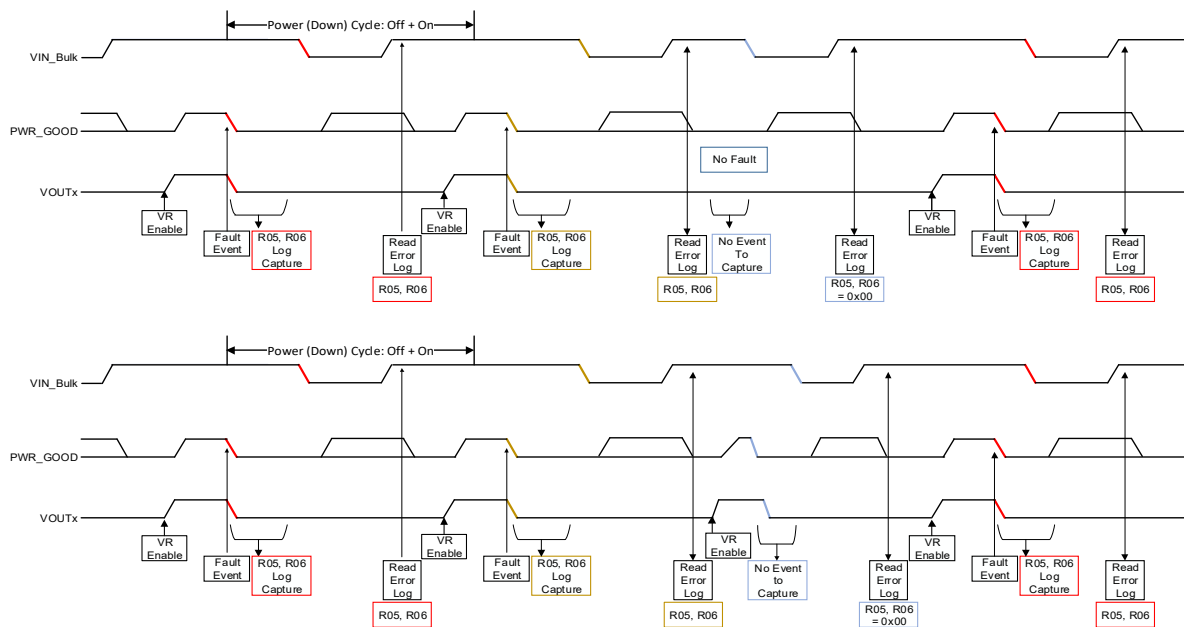

Figure 42 — Error Log (R05 to R07) Registers Behavior with Power Cycle
- See Figure 42 for illustration. The top waveform illustrates how PMIC captures Error Log Registers (R05 to R07) when there is a fault and how PMIC reports error log registers when PMIC goes through power cycle. The bottom waveform illustrates same as top waveform with one exception. It shows no fault condition when PWR_GOOD is asserted to turn off switch regulator outputs with power down sequence.